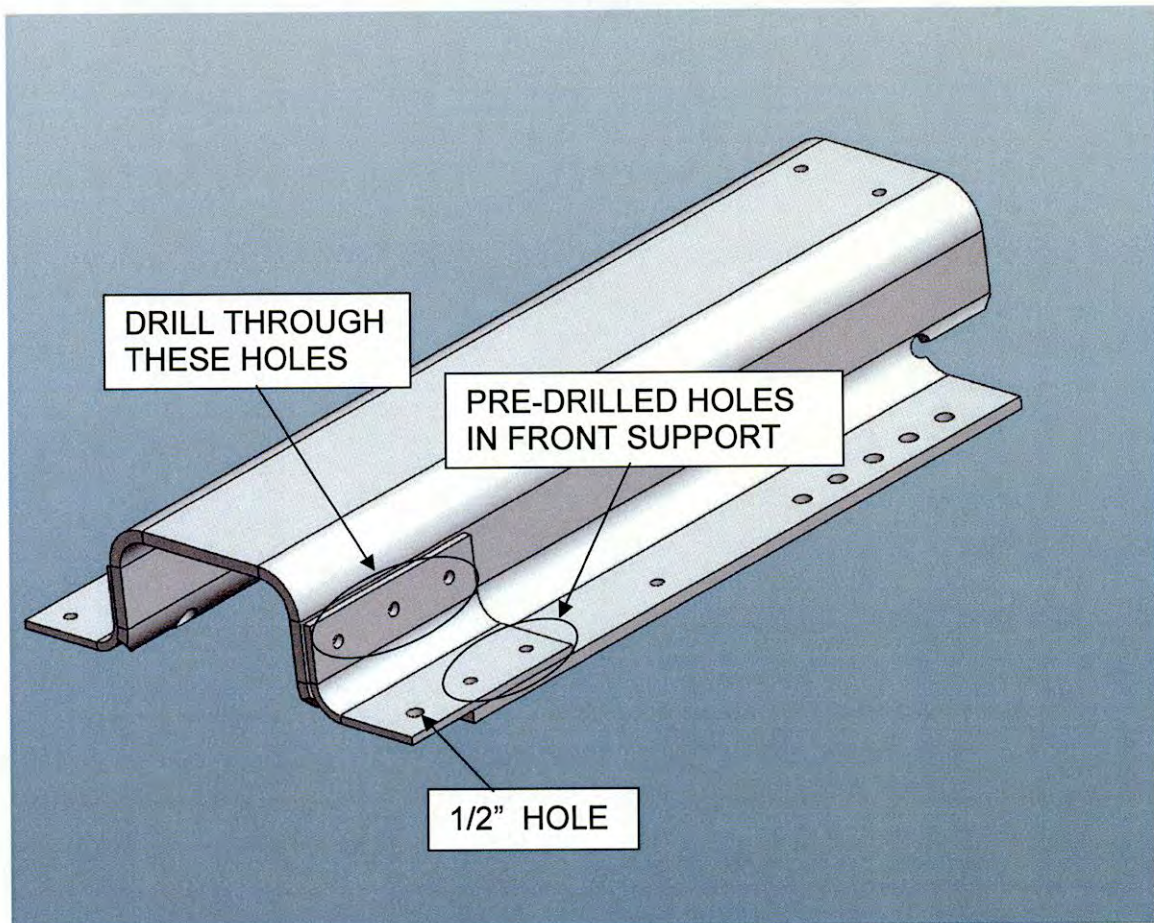

Figure 7
1. Using Figure 7 as a guide, attach the old front support reinforcements to the new front supports as follows.